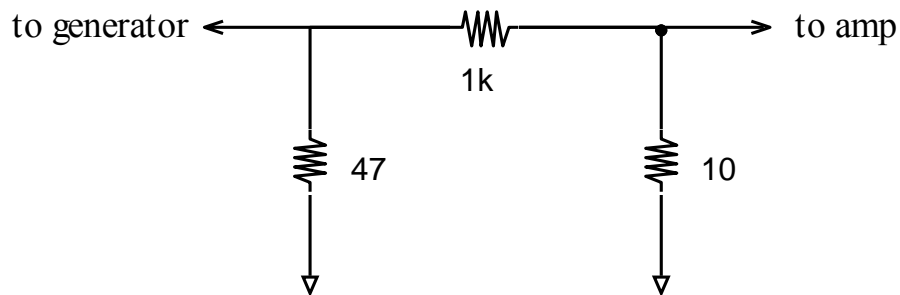

Figure 2
- Using one generator, measure the mid-band differential (note that the output of the amplifier is taken single-ended from only one collector) and common mode gains of the circuit. You may find that a resistive voltage divider such as the one pictured in Figure 2 is helpful in measuring the differential mode gain. Be careful when measuring the common mode gain, especially when measuring voltages less than 50 mV (remember that the common-mode voltage gain is smaller than 1). Sometimes voltages of this magnitude are severely corrupted by ground currents from large signals on the board (such as the input to the amplifier) while making a common mode gain measurement). In any case, you should not use the input divider for common mode measurements, because your common-mode signal will likely be a large signal.